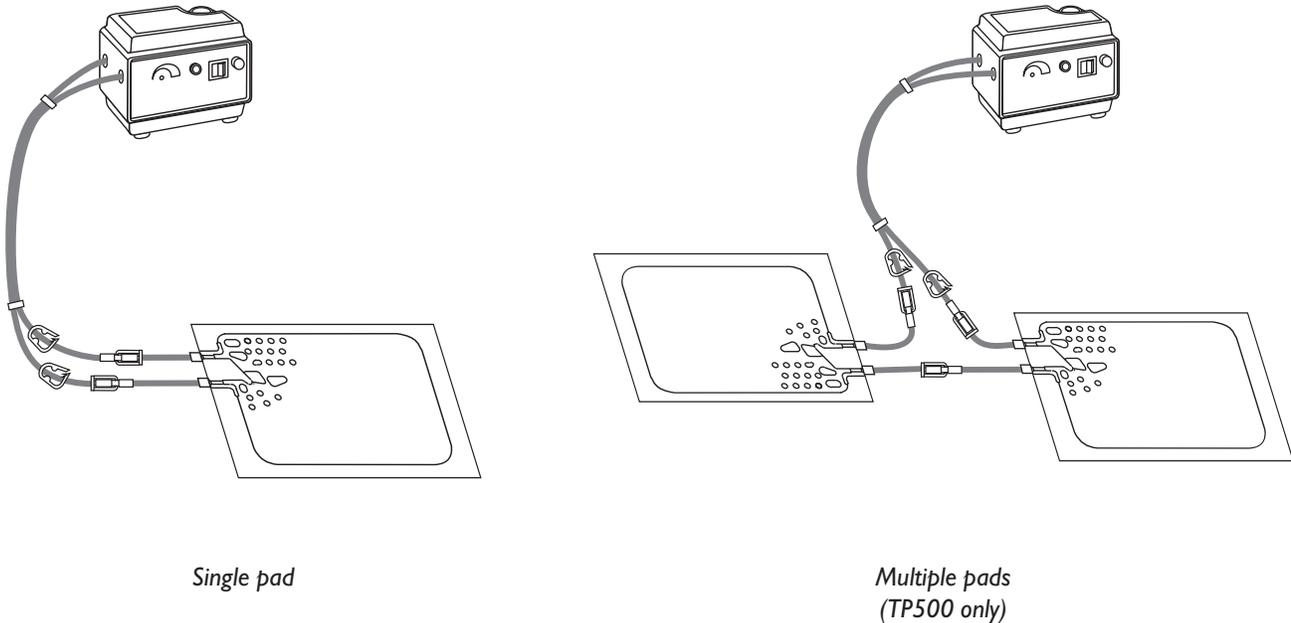

Figure 1—T/Pump Heat Therapy System
NOTE: Refer to figure 1 (p. 2) and item 9 (p. 6) when connecting multiple pads.